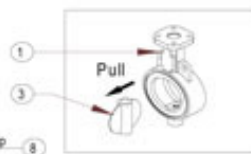

Fig 8.2
8.1.5 Pull the disc (3) from the body (1) as shown in fig 8.2